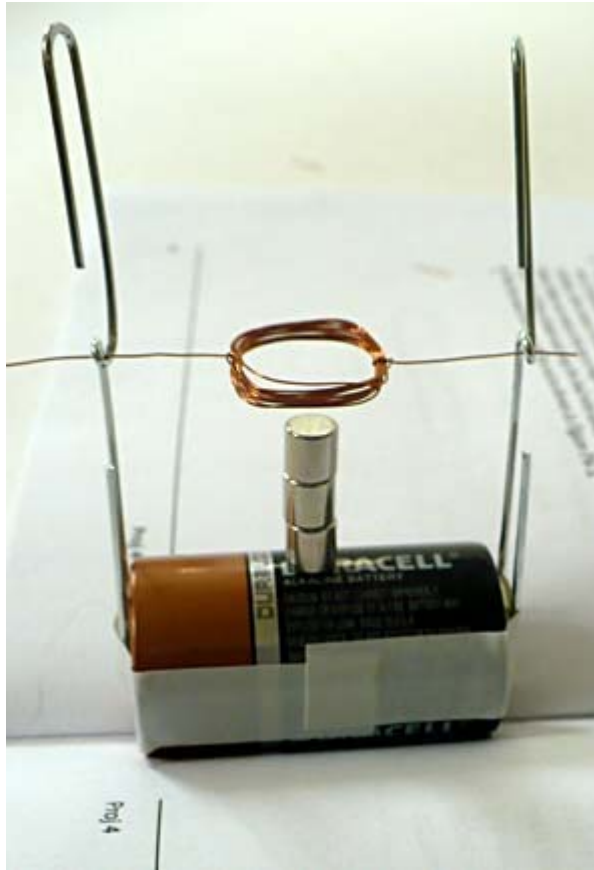

Figure 17. Picture of a finished electrical motor, showing the different parts of the motor and how to combine them together.
Time to put it all together! Let Figure 17, below, be your guide.
1. Open the booklet that comes with the kit (or any other book) and balance your battery and its attached axle supports in the fold of the booklet, axle support facing up, as can be seen in Figure 17.